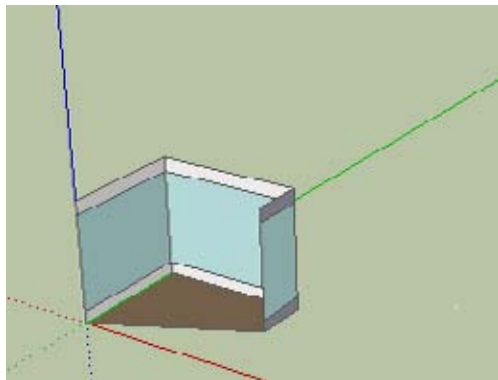

Figure 14-24
2. In the room's Component Options window, change the width to 126", the length to 102", the height to 8', and make the base trim 12". The resulting room in Figure 14-24 also shows some changed colors. The corner of the room at the origin remains in place, and the walls adjust accordingly.